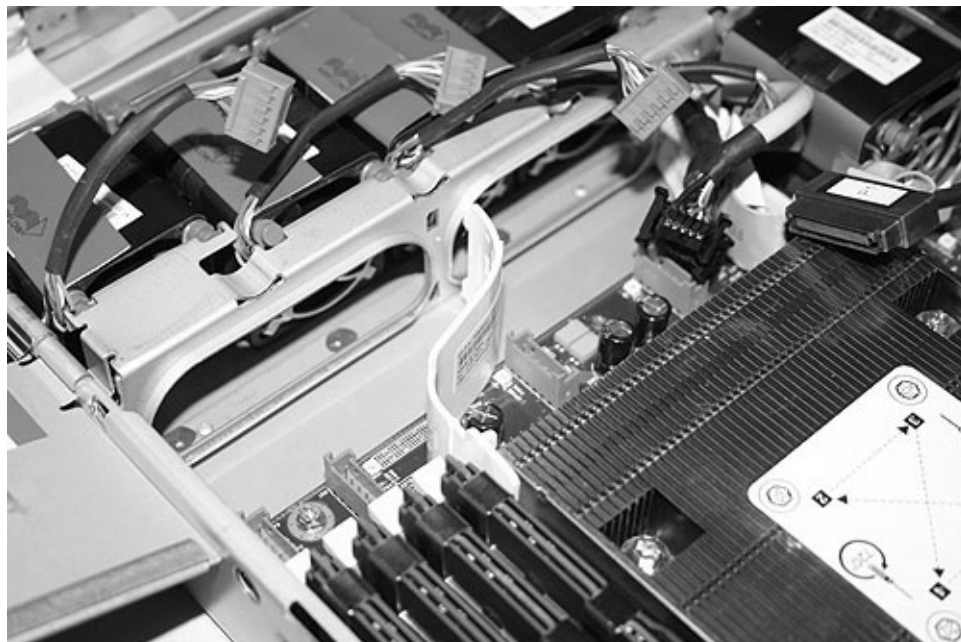

Figure 283. Right air baffle on the SAN Volume Controller 2145-8G4 system board
11. Remove the right air baffle, which is shown in Figure 283. First, pull the air baffle to the right and then push the connector towards the back of the unit to release it from the support rail. Next, pull the baffle forward and then upward to release the clip from the system board. Finally, lift the baffle free.